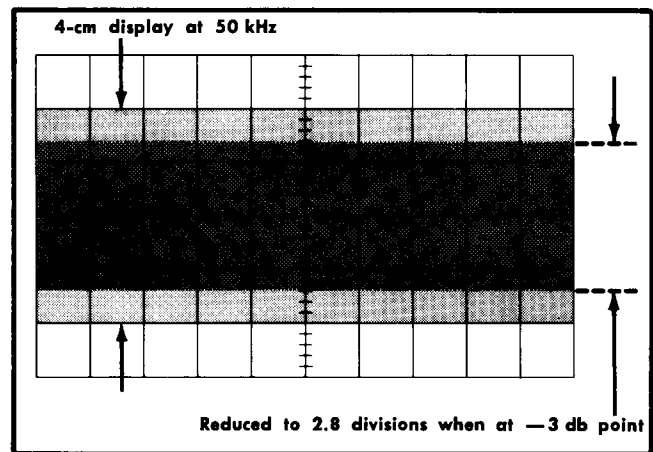

Fig. 5-9. Typical CRT display when checking vertical amplifier frequency response.
- g. Check—Amplitude of display must be 2.8 cm or more (-3 dB point). See Fig. 5-9.